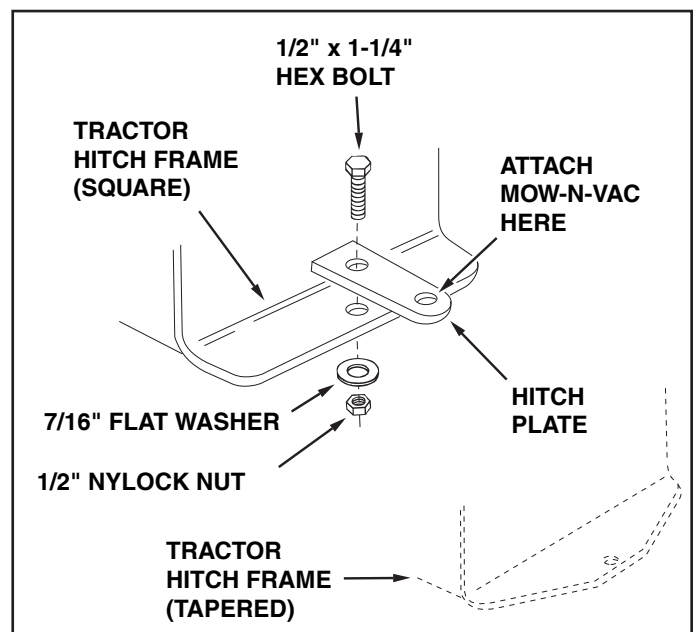

FIGURE 21
- Your tractor has a lightweight hitch frame that needs reinforcing for towing the Chip-N-Vac. Use a 1/2" x 1-1/4" hex bolt, a 7/16" flat washer and a 1/2" nylock nut. See figure 21.